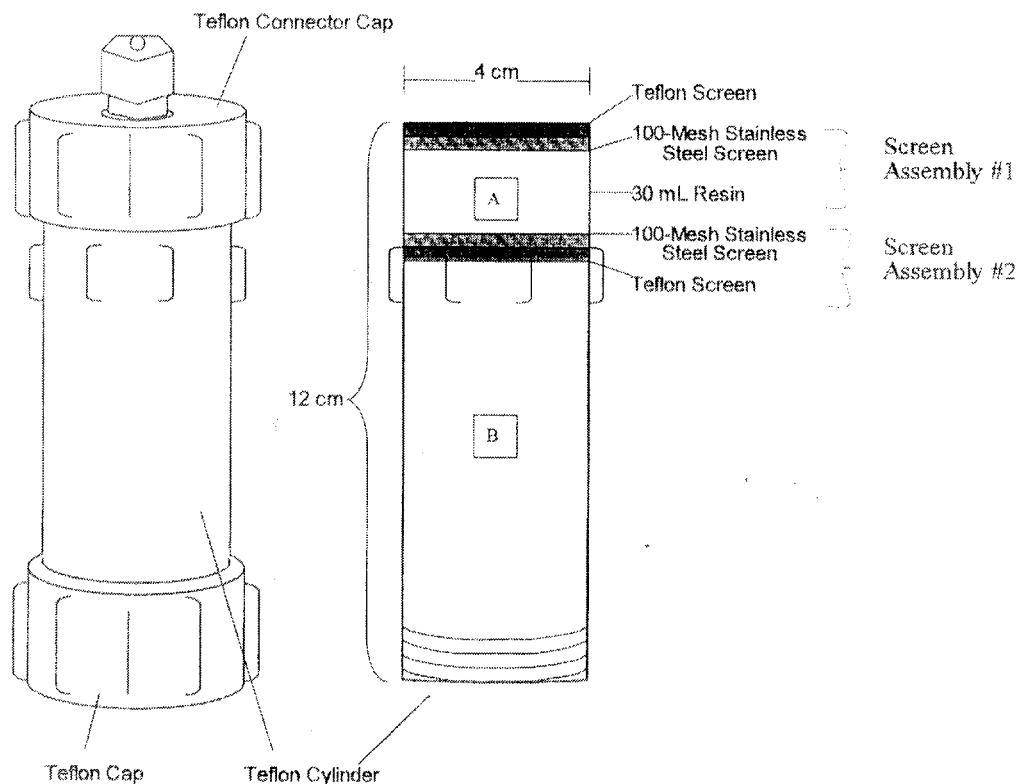

Figure 5. Teflon® Resin Cartridge
3.4 Teflon[®] resin cartridge preparation (Figure 5 and 6)
- 3.4.5 Locate the top (Figure 5) of the Teflon[®] cylinder (with the outside grips). Place the Teflon[®] Screen assembly inside and flush with the top of the Teflon[®] cylinder with the Teflon[®] screen positioned on the top.